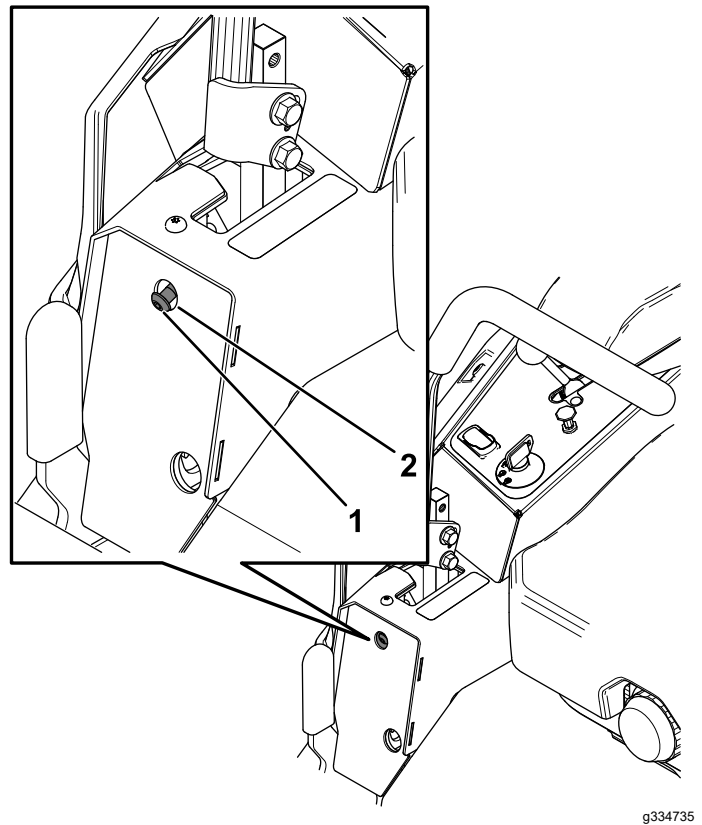

**Figure 77**
6. If the machine tracks to the right, insert a 3/16 inch hex wrench through the access hole in the left, front cover panel and rotate the tracking screw clockwise or counterclockwise to adjust the travel of the lever (Figure 77).
7. If the machine tracks to the left, insert a 3/16 inch hex wrench through the access hole in the right, front cover panel and rotate the tracking screw clockwise or counterclockwise to adjust the travel of the lever (Figure 77).